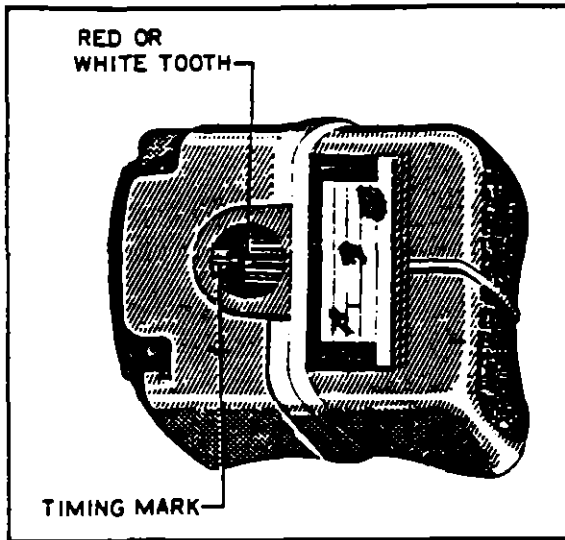

Figure 8-12. Magneto Timing Marks
- c. Rotate coupling from neutral in a left hand direction 10 degrees. Appearing through timing hole, when the white or red tooth aligns with the white line of the distributor block the magneto is set at "E" gap. (Refer to Figure 8-12.) Alignment may not vary over ± 4 degrees.
- c. Rotate the drive gear on the magneto until the chamfered tooth on the distributor gear inside the magneto aligns with the white pointer as seen through the inspection hole in the magneto housing. Refer to Figure 8-12.